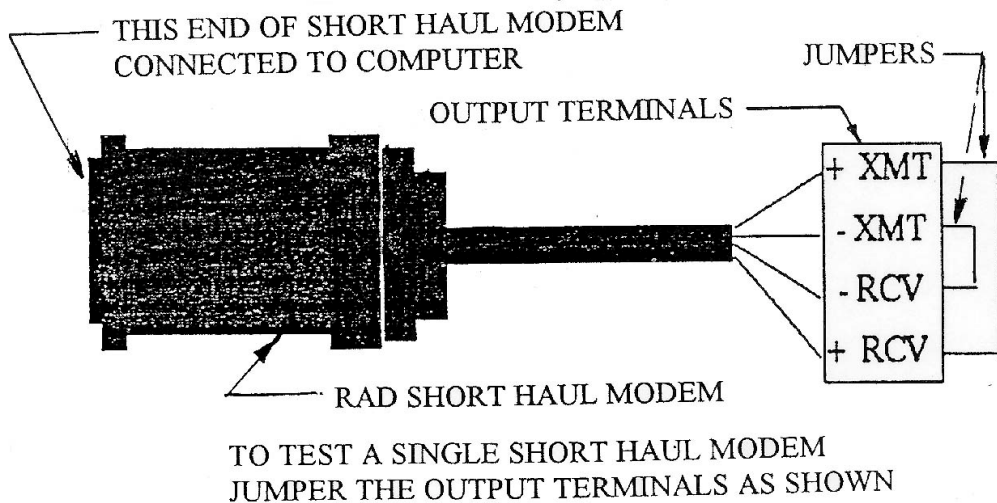

FIGURE 25 - TEST OF SHORT HAUL MODEM
- Connect the Laptop computer, using the serial cable as shown in FIGURE 25, to the Serial I/O connector on
- Assuming you have connected the output terminals of the modem as shown in **FIGURE 25** below, what you type will be echoed back to the computer screen. Testing the short haul modem in this way will verify that it is working properly. If you do not see the characters, that you type, on the screen then the Short Haul Modem has a problem or the COM port and needs to be replaced.
- With the modem connected to the computer, jumper the output terminals of the RAD modem as shown in FIGURE 25.